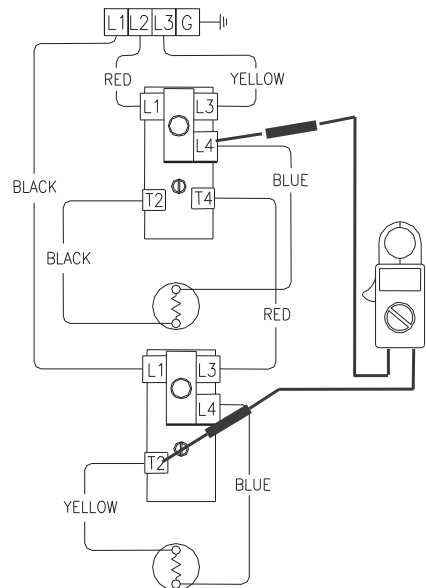

Figure 46
5. Check across terminal L4 & T2 of upper thermostat (see Figure 46).